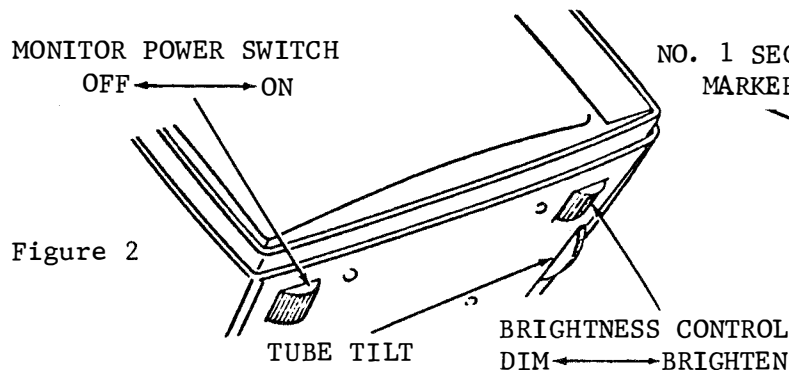

Figure 2
2. Turn on the power to the monitor (Figure 2). Turn the brightness control to maximum brightness (Figure 2).
1. With all power off, turn the power to the set and monitor on. Adjust monitor brightness control to desired level. See Figure 2 for the location of this control. Engage the "CAPS LOCK" key on the keyboard if provided.